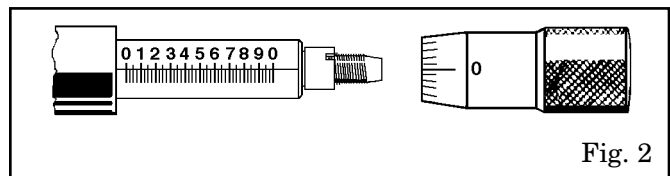

Fig. 2
2. Remove outer sleeve. See Fig. 2.